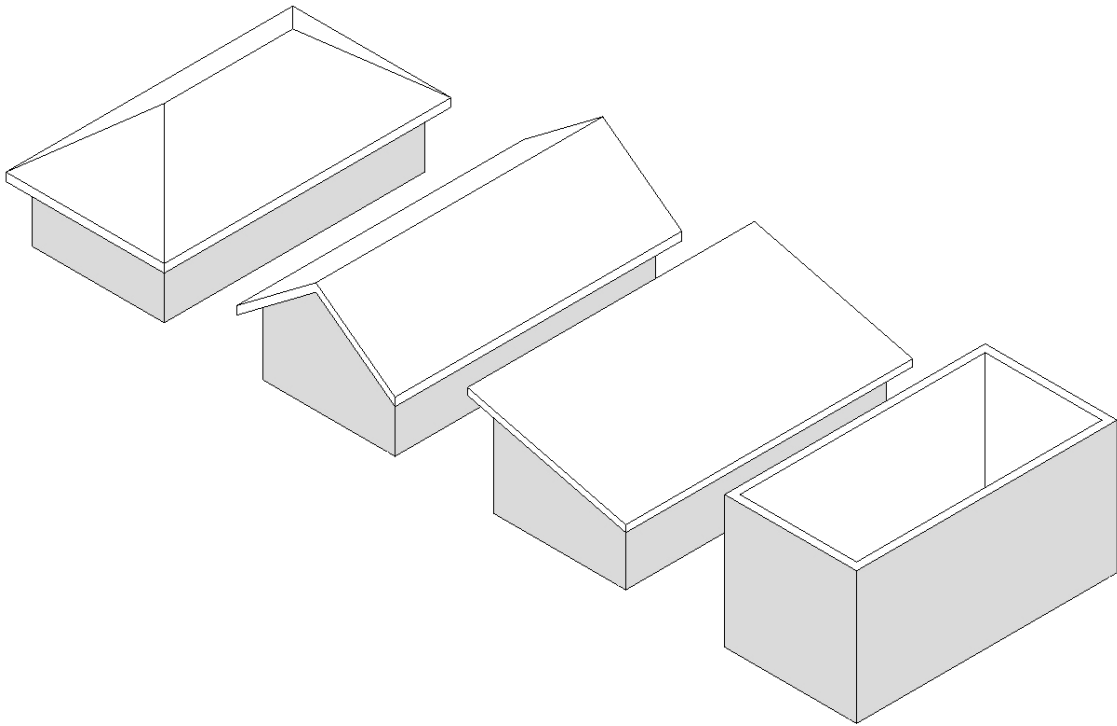

FIGURE 7-1.11 Default 3D view – shed roof
38. Switch to the **Default 3D View** (Figure 7-1.11).